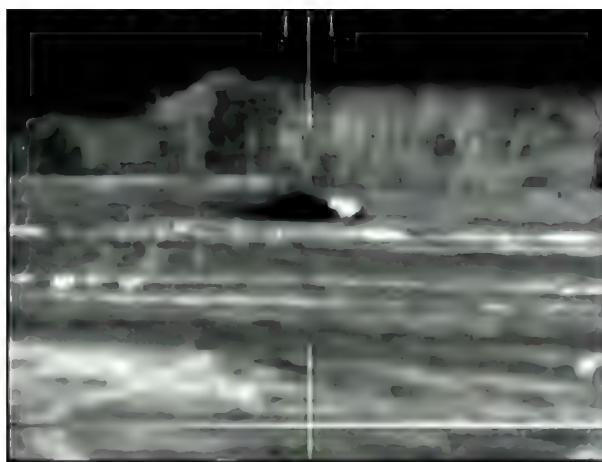

Figure E-44. Dust cloud from moving vehicle.
(1) **Dust or Vehicle Exhaust.** Moving vehicles often raise dust. Stay alert for dust because it can be spotted at long ranges (Figure E-44).